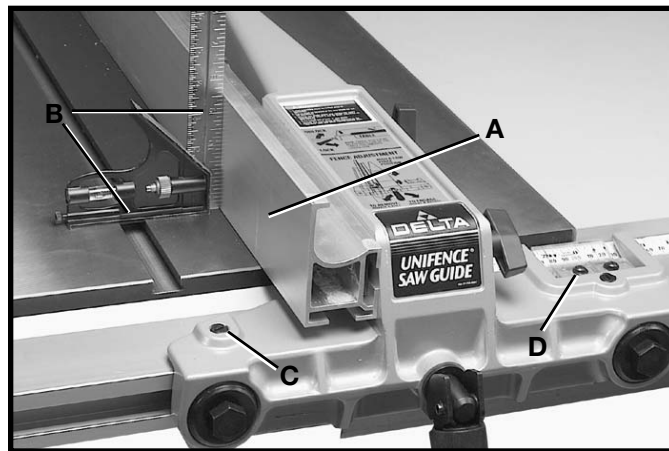

Fig. 116
The fence must be adjusted so that the face of fence (A) Fig. 116, is 90 degrees to the table. To check if the fence is 90 degrees to the table, place a square (B) on the table with one end of the square against the fence, as shown. If an adjustment is necessary, tighten or loosen one of two screws (C) or (D) using the wrench supplied, until the fence is 90 degrees to the table. **IMPORTANT: VERY LITTLE MOVEMENT OF THESE SCREWS (C) AND (D) IS NECESSARY TO MAKE THIS ADJUSTMENT.**